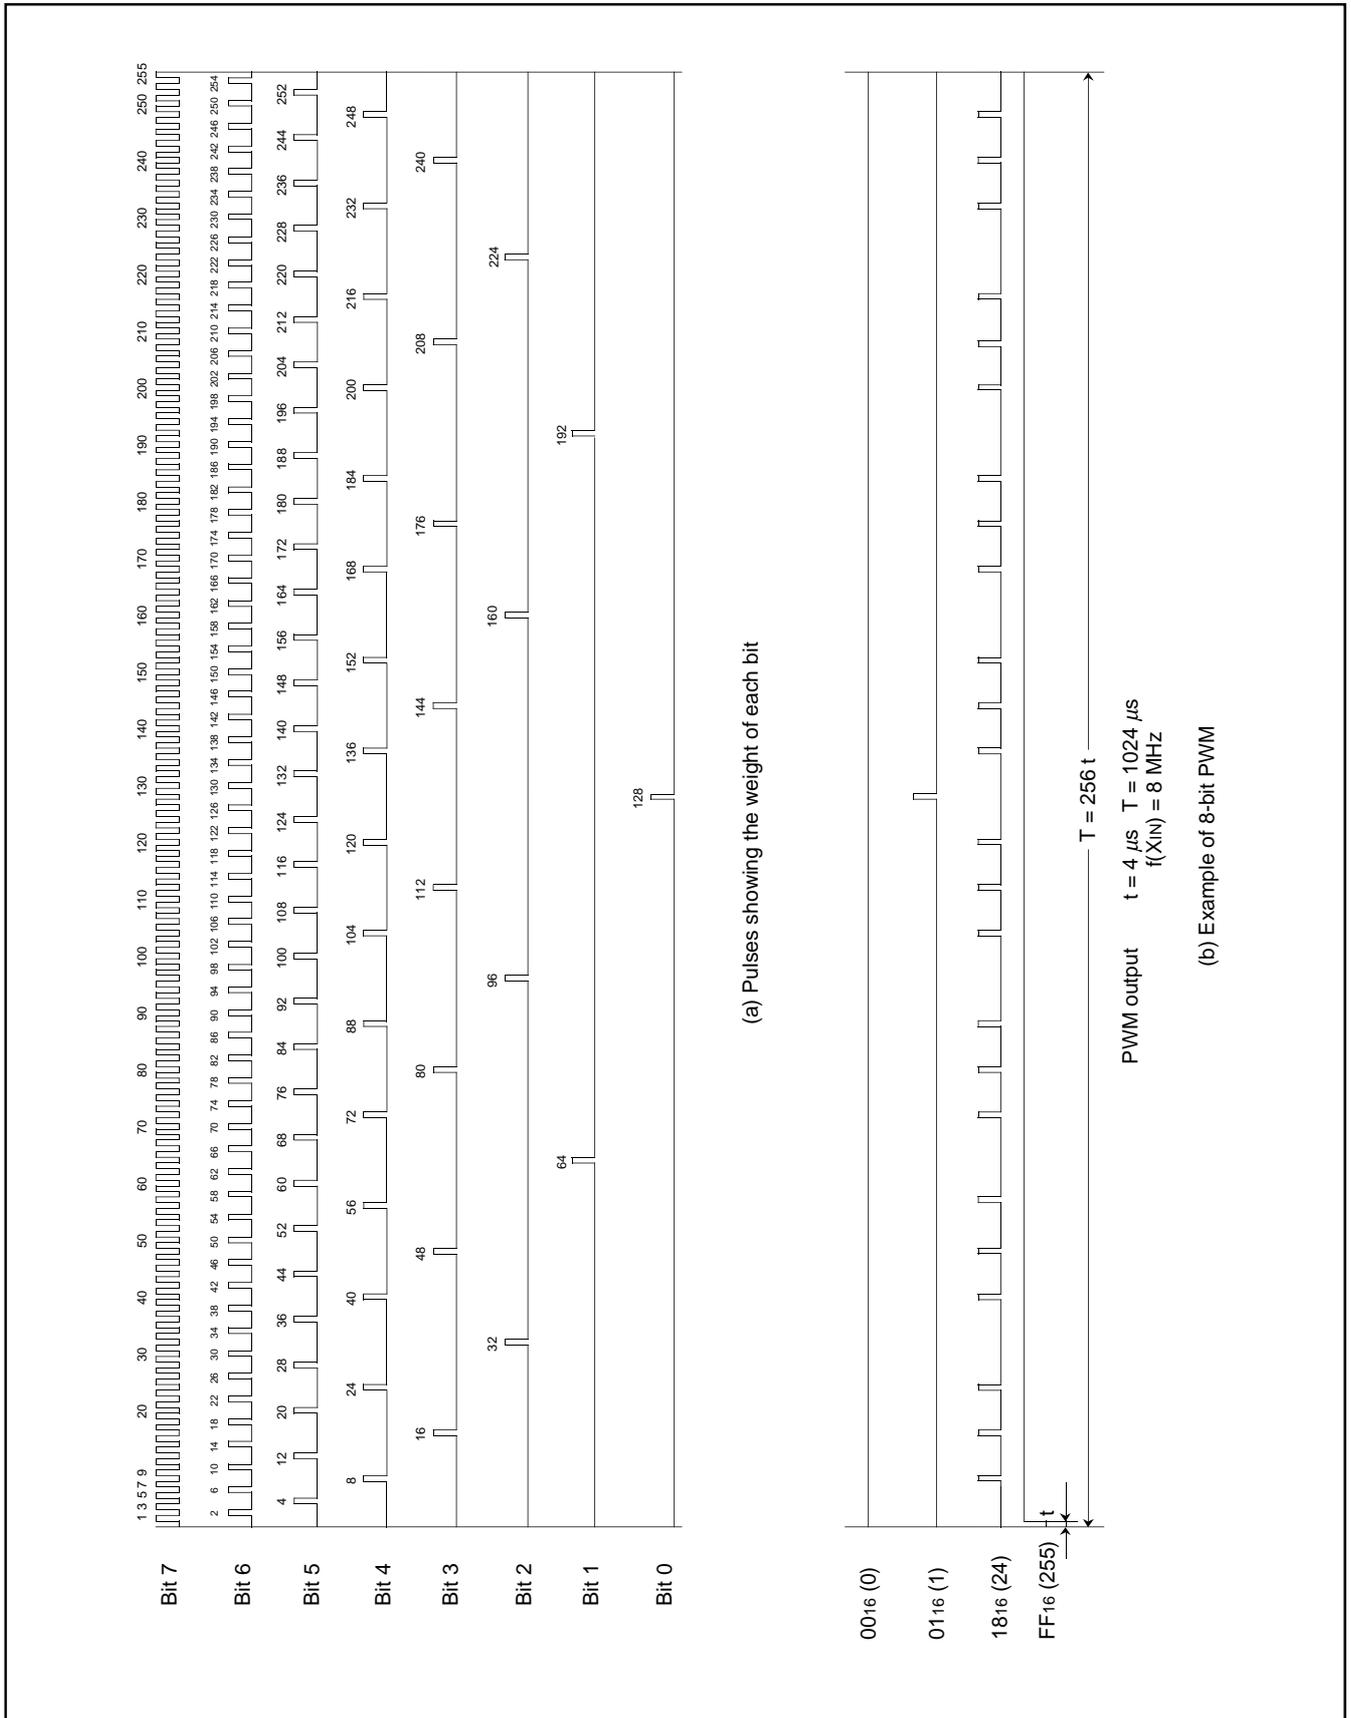

Fig. 16. 8-bit PWM timing
Figure 16 shows the 8-bit PWM timing. One cycle (T) is composed of 256 ( $2^8$ ) segments. The 8 kinds of pulses relative to the weight of each bit (bits 0 to 7) are output inside the circuit during 1 cycle. Refer to Figure 16 (a). The 8-bit PWM outputs waveform which is the logical sum (OR) of pulses corresponding to the contents of bits 0 to 7 of the 8-bit PWM register. Several examples are shown in Figure 16 (b). 256 kinds of output (“H” level area: 0/256 to 255/256) are selected by changing the contents of the PWM register. A length of entirely “H” output cannot be output, i.e. 256/256.